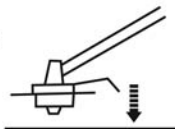

Fig. 19
- > The strimmer head features a button [33] to extend the cutting line [34] during use. To extend the cutting line, tap the button on a hard surface (Fig. 19).